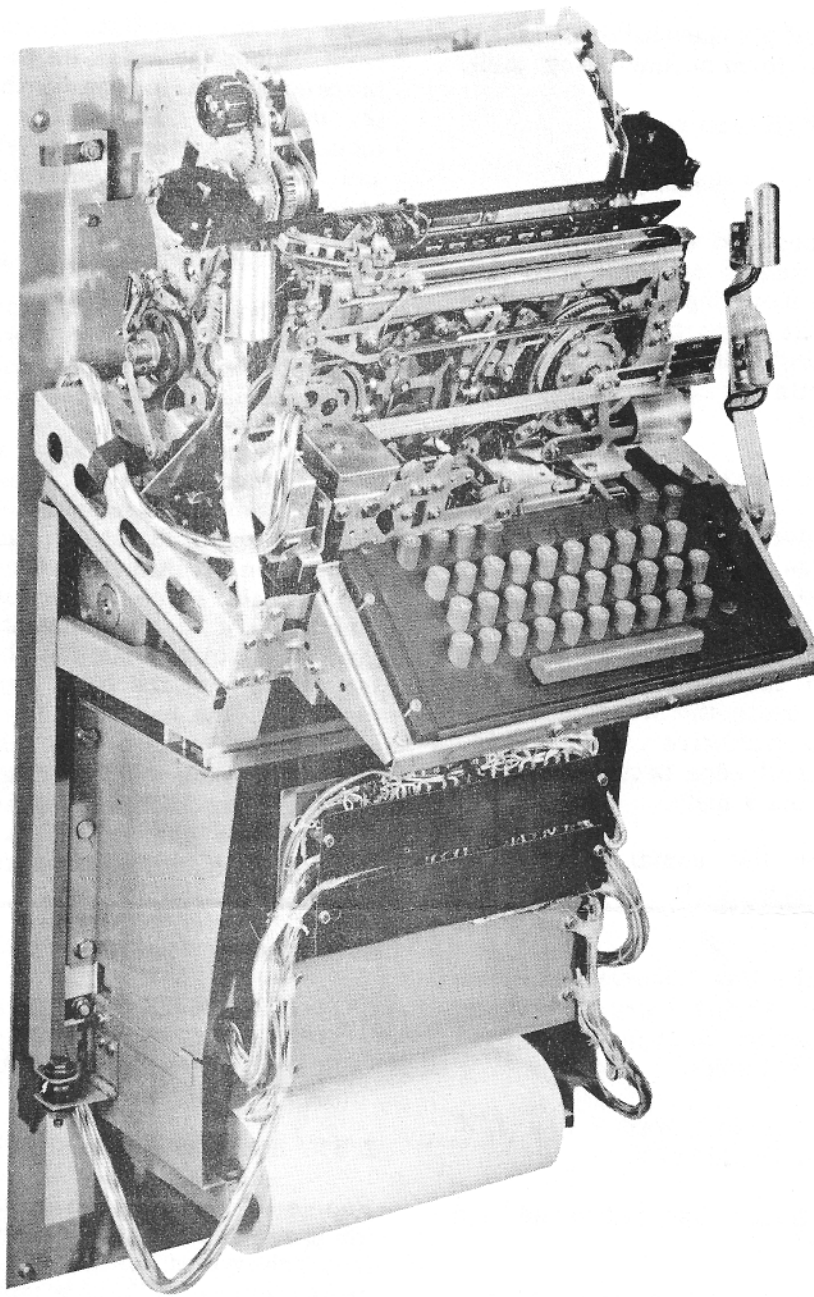

Figure 7 - Wall Mounted Printer Set (Cover Removed)
#### WALL MOUNTED SETS (Figure 7)
2.52 Place the motor unit on the bottom of the base unit in the proper location. See Figure 7. Place timing belt over the pinion.
2.58 Route the keyboard connecting cable from the electrical service unit up along the left side of the mounting frame. Route the cable behind all spring clips supplied with the mounting frame for this purpose. Clamp the keyboard cable to the keyboard with the spring clip supplied on the keyboard. See Figures 7 and 10. Route the typing unit connector up along the right side of the mounting frame and fasten with the spring clips supplied with the frame.